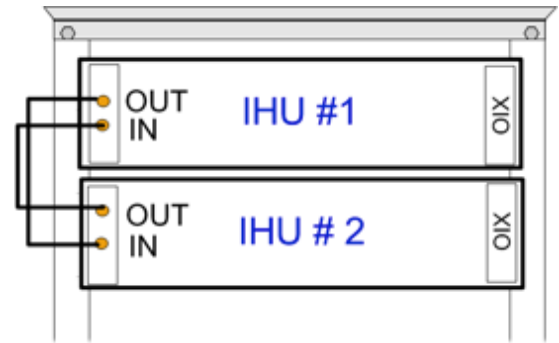

Figure 8: Example of Pilot Clock Connections Between Two IHUs
- The REF IN and REF OUT pilot clock ports must be connected in a closed loop as shown in Figure 8.